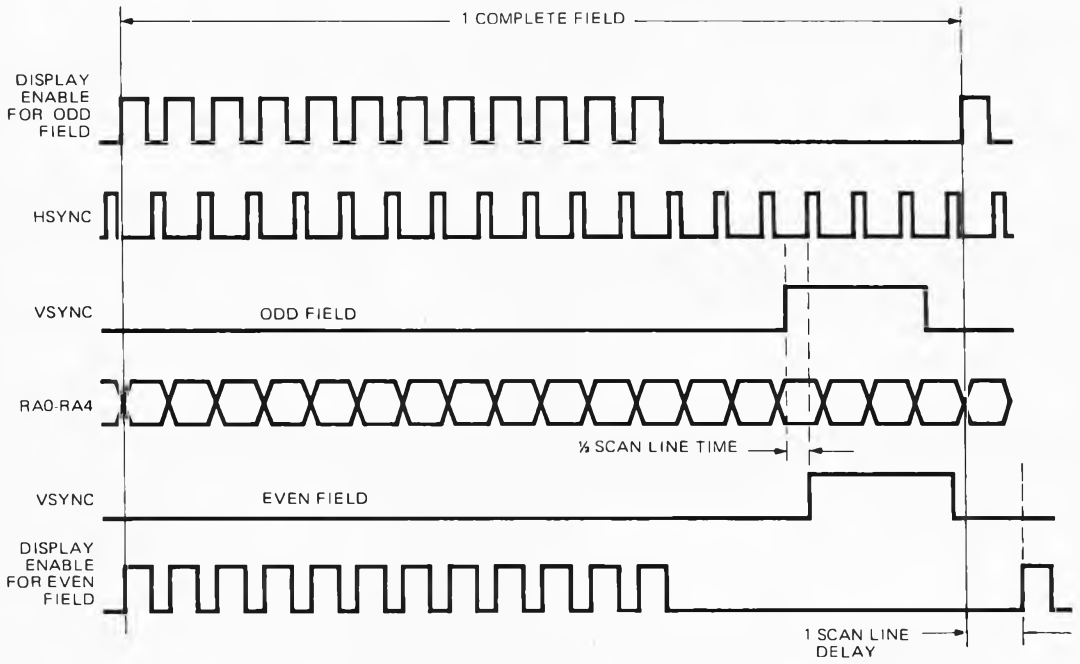

Figure 8. Interlaced Sync Mode and Interlaced Sync & Video Mode Timing
b) Interlaced Sync Mode. This mode is used when the same information is to be displayed in both odd and even fields. Enhanced readability results because the spaces between adjacent rows are filled and a higher quality character is displayed. This is achieved with only a slight alteration in the device operation: in alternate fields, the position of the VSYNC signal is delayed by $\frac{1}{2}$ of a scan line time. This is illustrated in Figure 8 and is the only difference in the UM6845R/RA/RB operation in this mode.